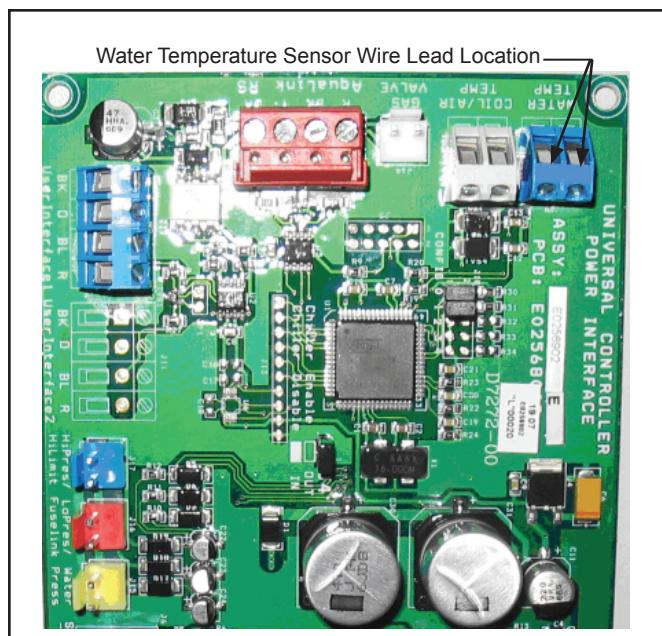

Figure 2. Removal of Water Temperature Sensor Leads
- Remove the service access panel by removing the four (4) screws holding it in place.
- Remove the one (1) screw that secures the junction box cover to the junction box and set it aside.
- Remove the two (2) wires from the blue 2-position terminal block in the upper right hand corner of the power interface board. See Figure 2.
4. Connect the wires to the blue 2-position terminal block on the upper right-hand corner of the power interface board. (See Figure 2 or the wiring diagram on back of the service access panel.)
6. Replace the service access panel and secure it with the four (4) screws removed earlier.